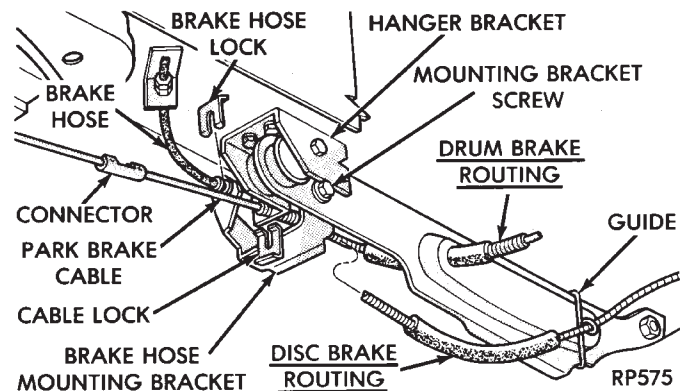

Fig. 5 Remove Brake Hose Mounting Bracket Screw and Park Brake Cable
- (1) Raise vehicle, see Hoisting, Group 0.
- (2) Raise rear axle to curb height, with jack stands (Fig. 5).
- (3) Remove track bar-to-axle pivot bolt. And remove track bar-to-frame pivot bolt. Remove track bar.
- (4) Remove diagonal brace-to-underbody stud nut. Remove diagonal brace.
- (5) Remove two track bar bracket-to-frame rail bolts. Remove bracket.
- (1) Raise vehicle (see Hoisting, Group 0). Remove brake hose mounting bracket screw (Fig. 5).
- (2) Detach park brake cable at connector and from hanger bracket (Fig. 5).